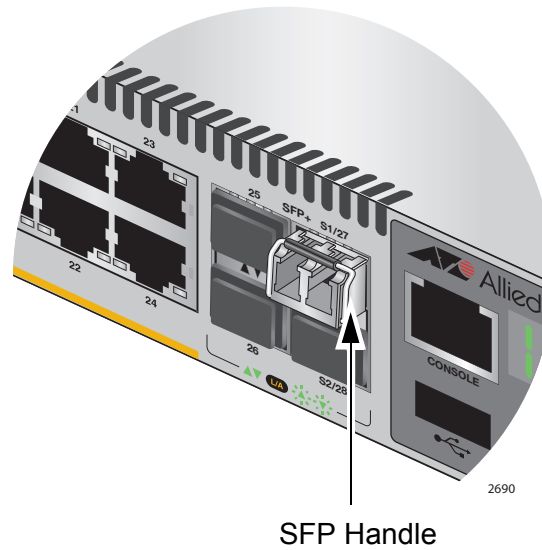

Figure 64. Positioning the Handle in the Upright Position
5. Verify the position of the handle on the transceiver. If the transceiver is in the S1 slot, the handle should be in the upright position, as shown in Figure 64. If the transceiver is in the S2 slot, the handle should be in the down position.